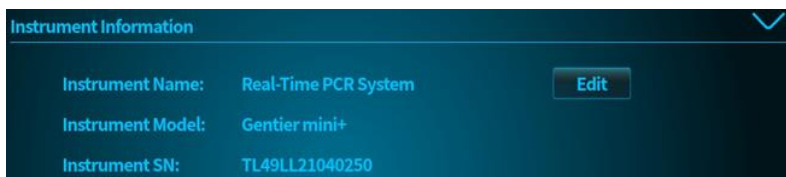

Figure D-7.1 About – Instrument Information
1. **Instrument Information:** It displays **Instrument Name, Instrument Model** and **Instrument Serial Number**, as shown in figure D-7.1. The instrument name